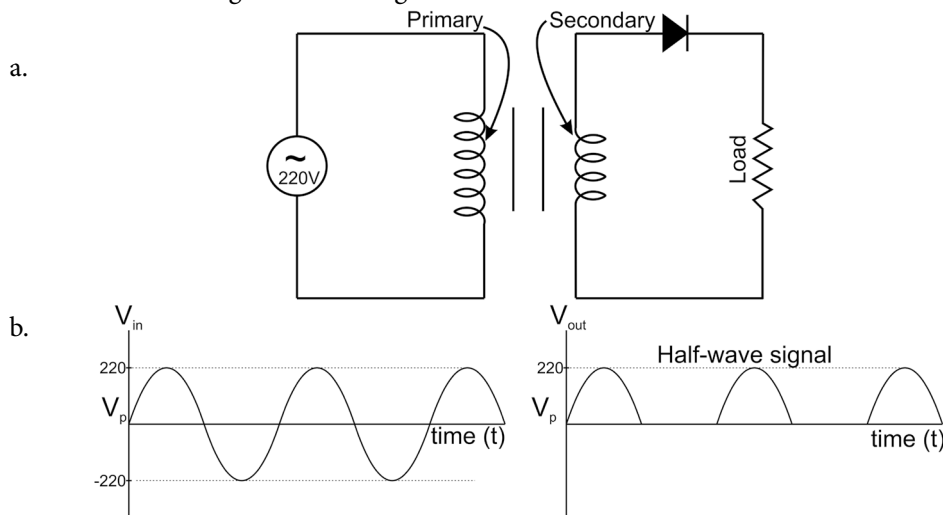

Fig 6.10 Half wave rectifier
In a Half wave rectifier, a step down transformer is used to scale down the AC voltage (say from 220 V to 12V), this AC signal is given to a circuit where a diode is connected in series with resistance (R). The diode will be in forward bias for one half cycle and in reverse bias in another half cycle. The voltage across the diode in forward bias is low (equal to knee voltage), then the total voltage will appear on Resistance R as per Kirchoff's law. In reverse bias no current or very less current will flow, hence the voltage across resistance R is very low and all the voltage will appear on diode. Fig 6.10(a) Shows the circuit of the Half wave rectifier. The input and output waveform is also displayed in Fig 6.10(b). The voltage appearing on the R is variable DC voltage and further given to filter circuits to convert variable DC into constant DC